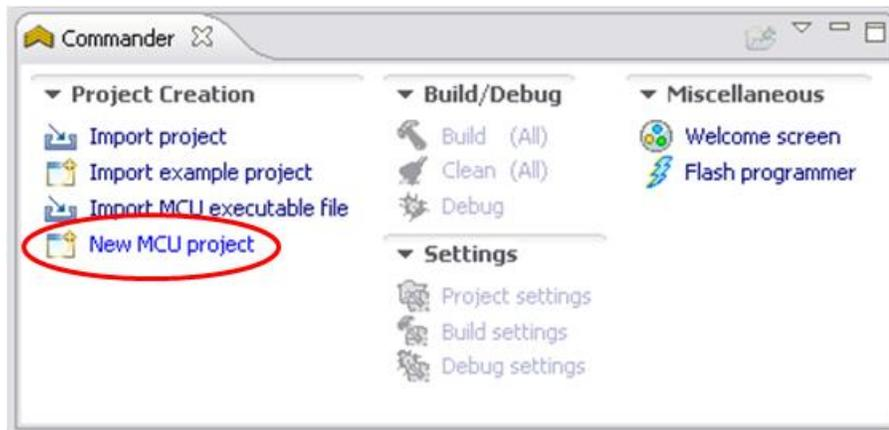

Figure 3. Commander window
1. The Commander window includes an option to create a new project for MCU. Figure 3 shows this option.